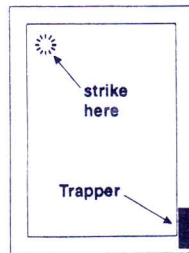

Fig 11
2. Firmly strike the outer limits of the protected surface, using a hard object as in Fig.11